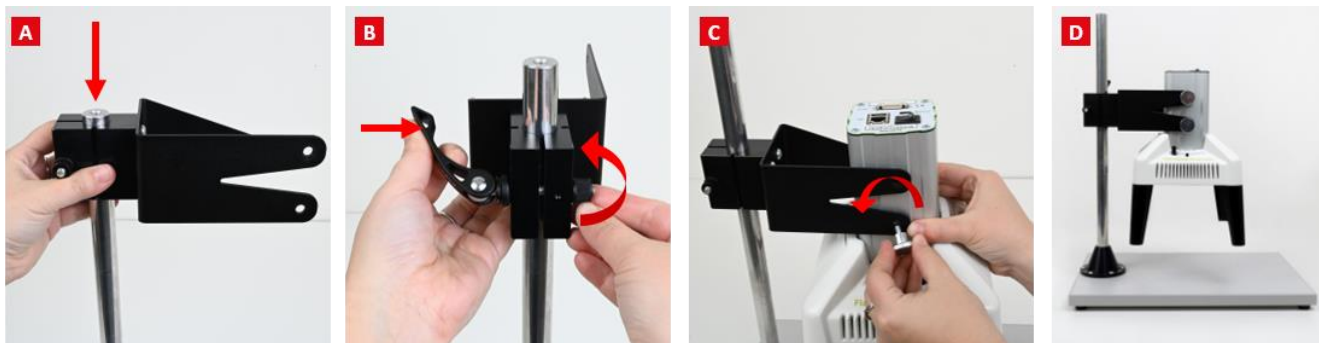

Fig. 5 Flat Handy FluorCam stand assembly.
- Adjust the holder to the correct height and secure the holder by tightening the lever (Fig. 5-B).
- Slide the camera into the stand's holder using the three metal thumb screws (Fig. 5-C, D).